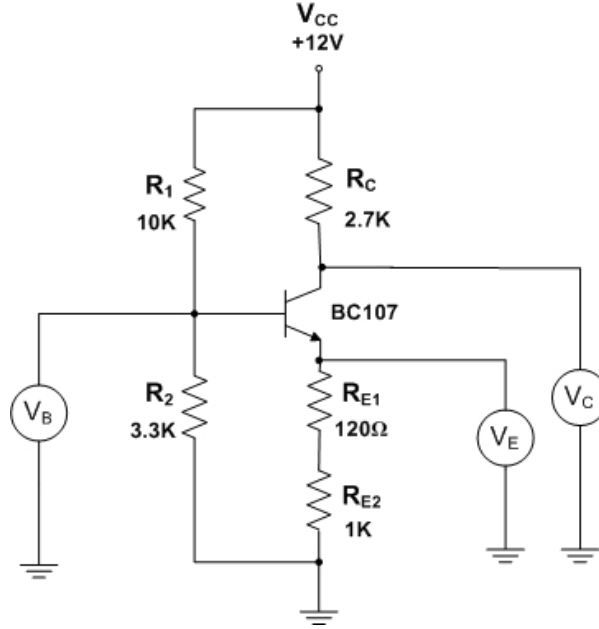

Figure 5: The DC Bias Circuit of the Common Emitter Amplifier
1. Connect the circuit shown in Fig.5 and measure the DC voltages V_B , V_E , and V_C . Try to measure the DC current gain of the BC107 transistor h_{FE} using a multi-meter. Tabulate your results as illustrated in Table-1.